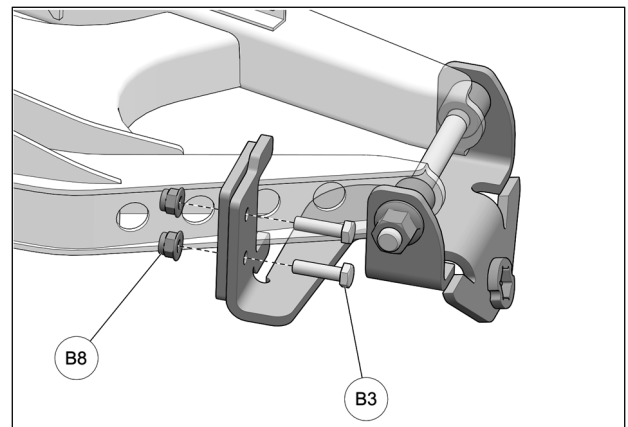

Fig. 10
11. Secure spacer plate to bracket using M8 bolts (**B3**) and nuts (**B8**). Hand-tighten nuts. See Fig. 10